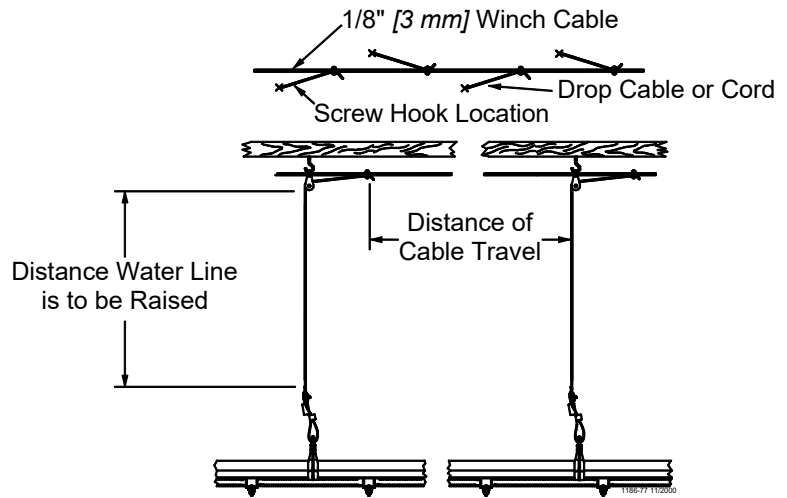

Figure 15. Offset the Screw/Ceiling Hooks
Note: The maximum distance the water line can be raised is equal to the distance of cable travel. (See **Figure 15**).
3. Install the pulley assemblies as shown in **Figure 15**.